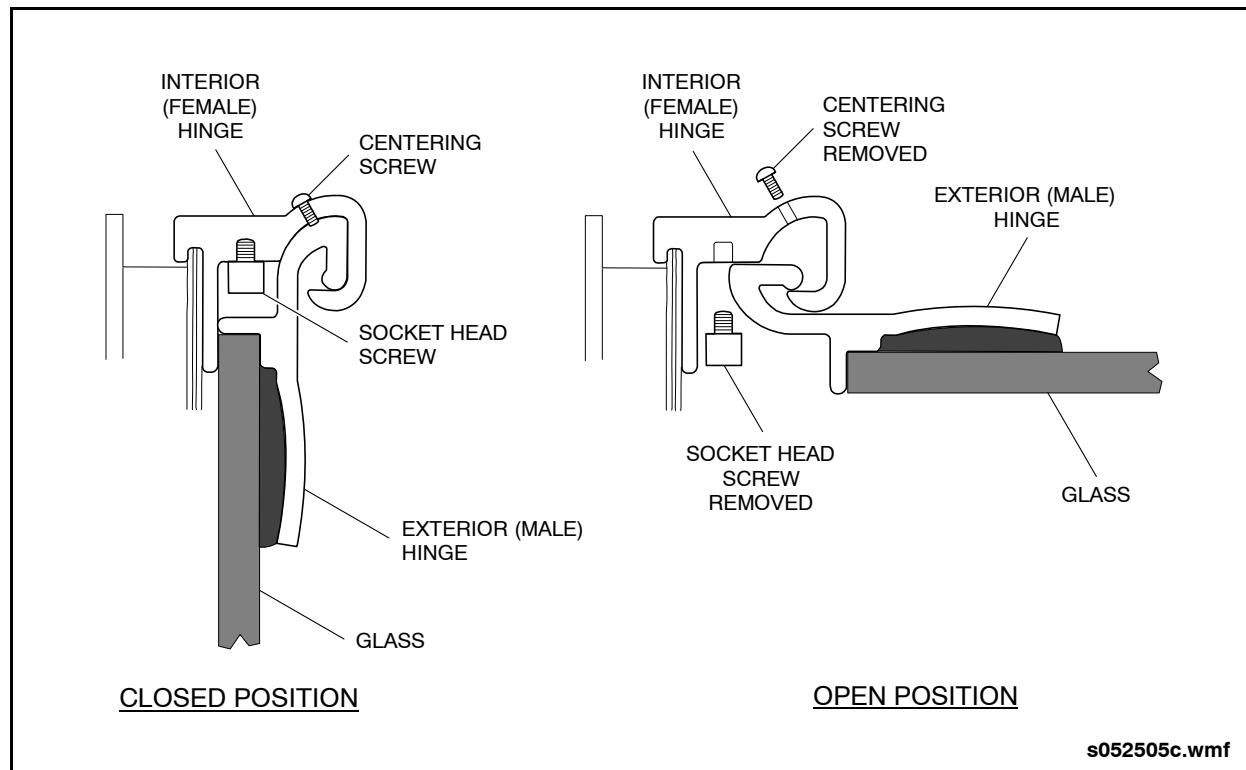

Fig. 14-10: Correct Engagement
2. Engage the two hinge halves correctly. See "Fig. 14-10: Correct Engagement" on page 12.